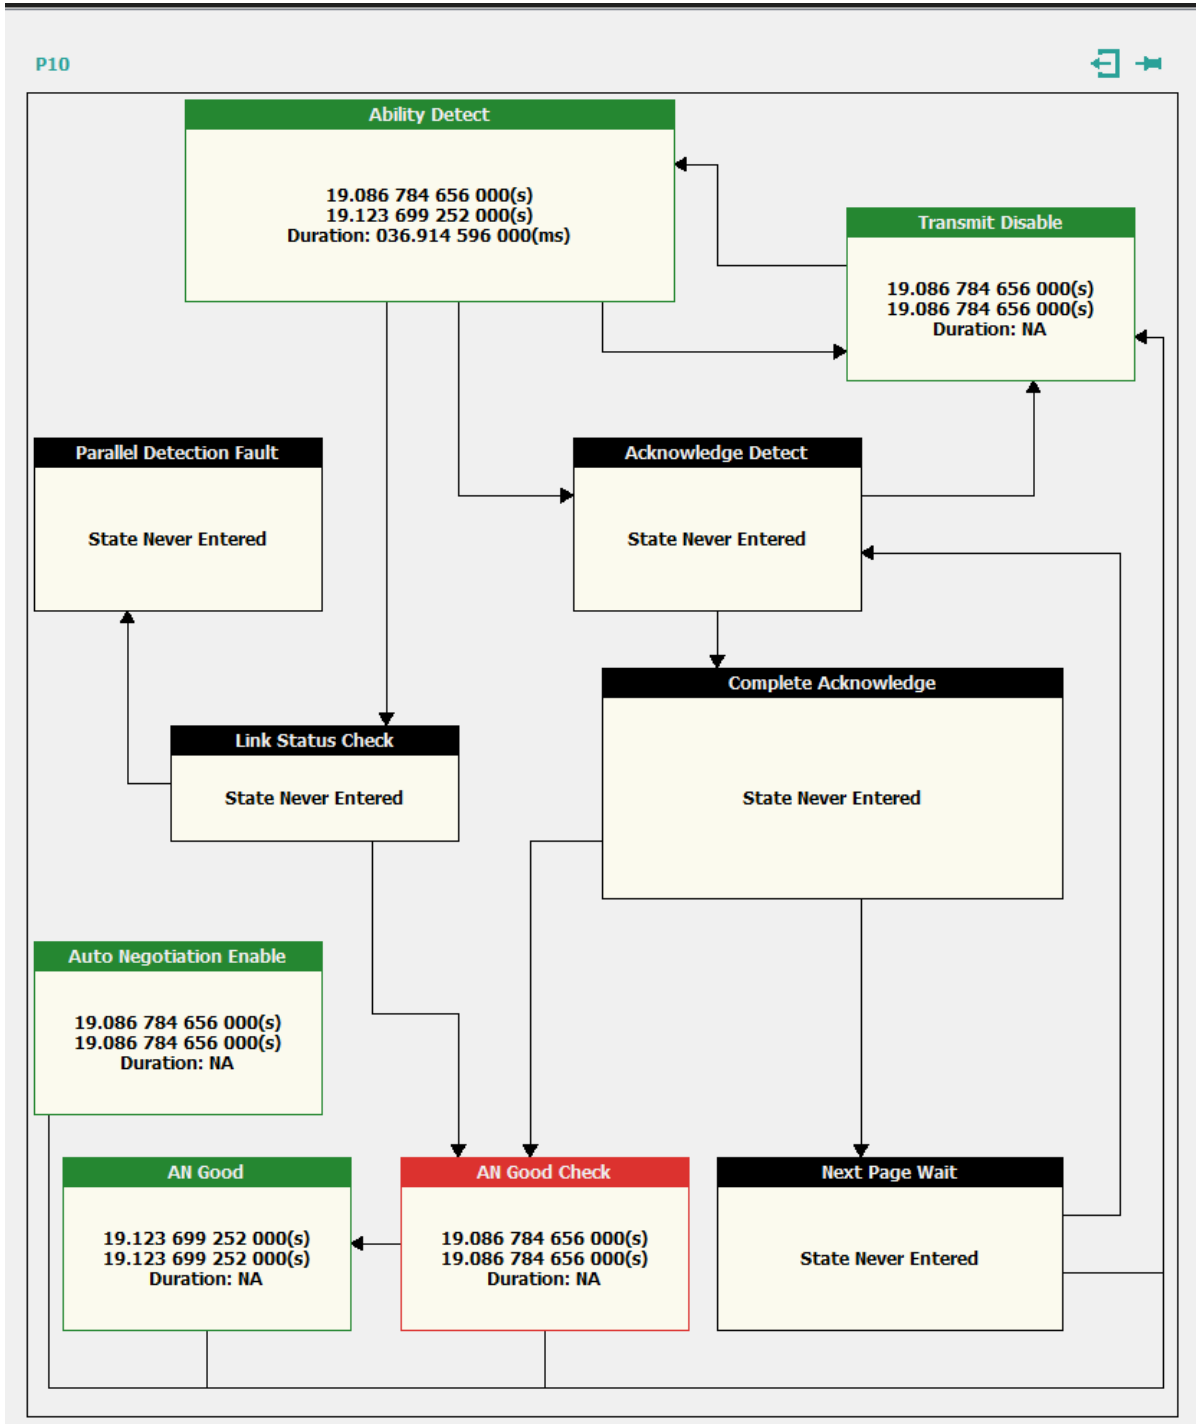

Figure 3.99: State Diagram Detail View for Selected Activity
- ❑ Click the  icon for Auto Negotiation or Transmitter Training to a detailed diagram for the selected activity (Figure 3.99).